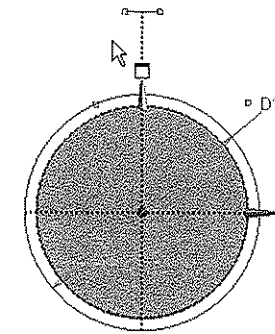

Figure 5-77 The selected arc
11. Invoke the **Replicate** tool from the **Modify** toolbox and then select the arc, as shown in Figure 5-77.